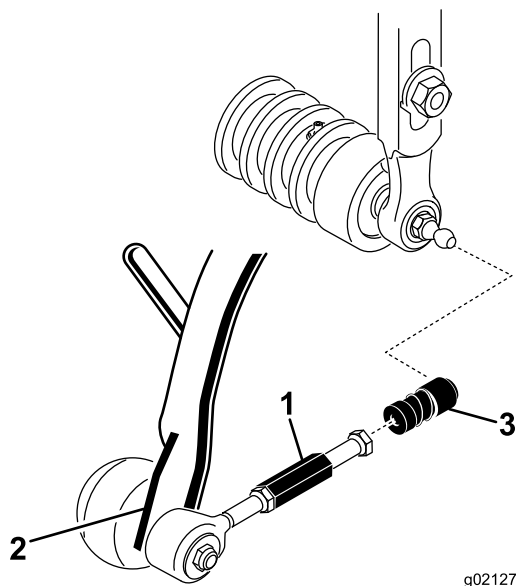

Figure 8
3. Slide the sleeve back on each ball joint receiver and hook the receiver onto the cutting unit ball stud (Figure 8).